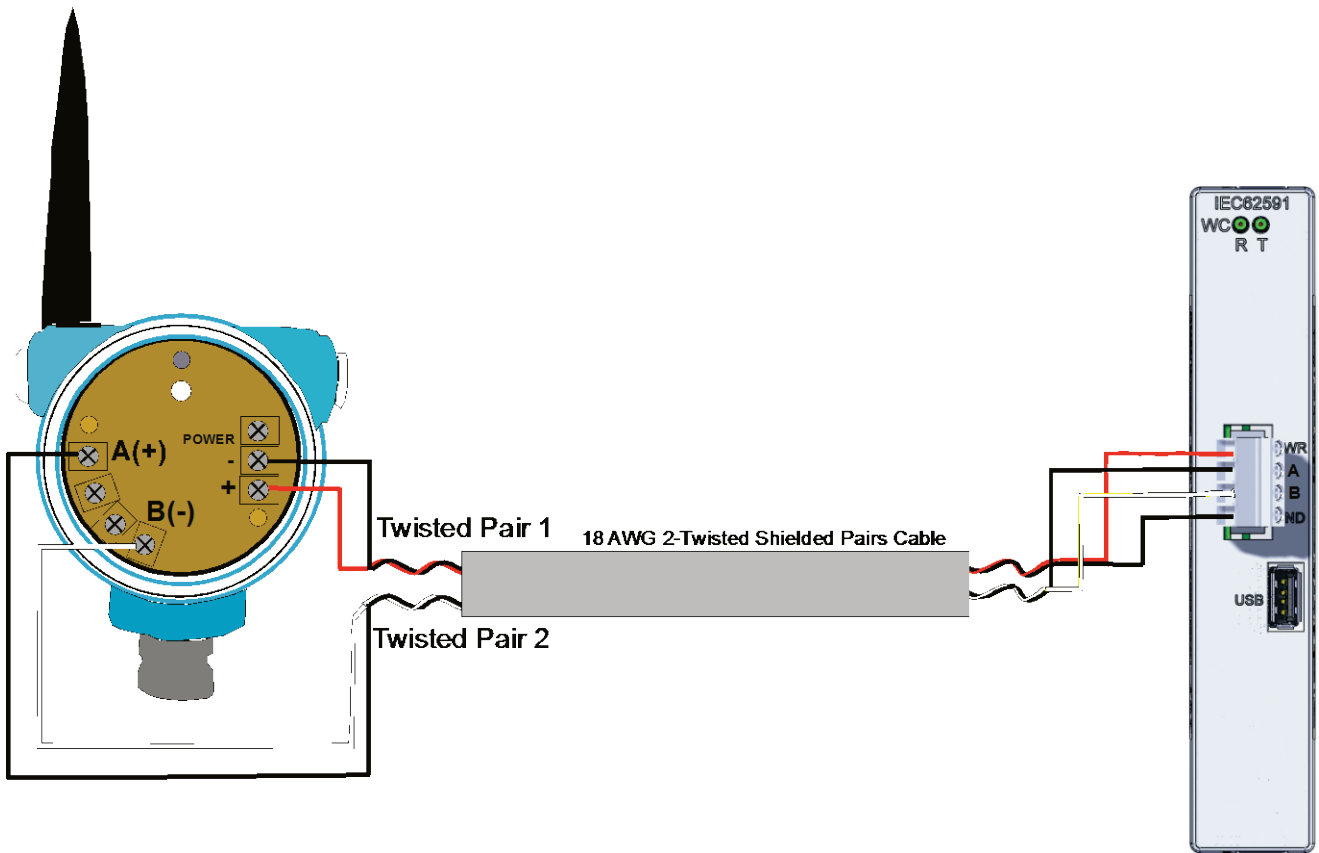

Figure 2-5. IEC 62591 Module Power and Data Wiring
*Figure 2-5* provides a wiring diagram for the IEC 62591 module.